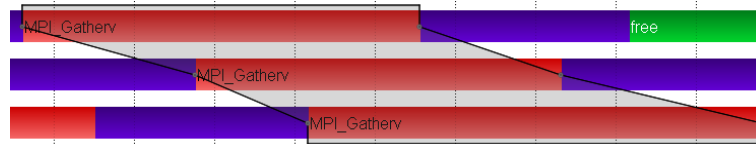

Figure 4.3: Selected MPI Collective in Master Timeline
**Communication Events** In addition to the display of categorized function invocations, Vampir's *Master-* and *Process Timeline* also provide information about communication events. Messages exchanged between two different processes are depicted as black lines. In timeline charts, the progress in time is reproduced from left to right. The leftmost (starting) point of a message line and its underlying process bar therefore identify the sender of the message, whereas the rightmost position of the same line represents the receiver of the message. The corresponding function calls usually reflect a pair of MPI communication directives like `MPI_Send()` and `MPI_Recv()`. Collective communication like `MPI_Gatherv()` is also displayed in the *Master Timeline* as shown in Figure 4.3.